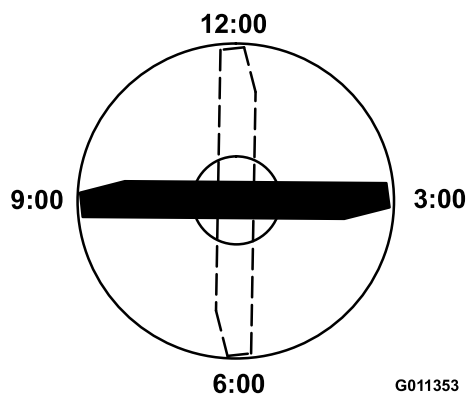

Figure 12
4. Position the cutting edge of the marked end of the blade at 12 o'clock (straight ahead in the direction of mowing) (Figure 12) and measure height from table to cutting edge of blade.
5. Rotate the marked end of the blade to the 3 and 9 o'clock positions (Figure 12) and measure the heights.